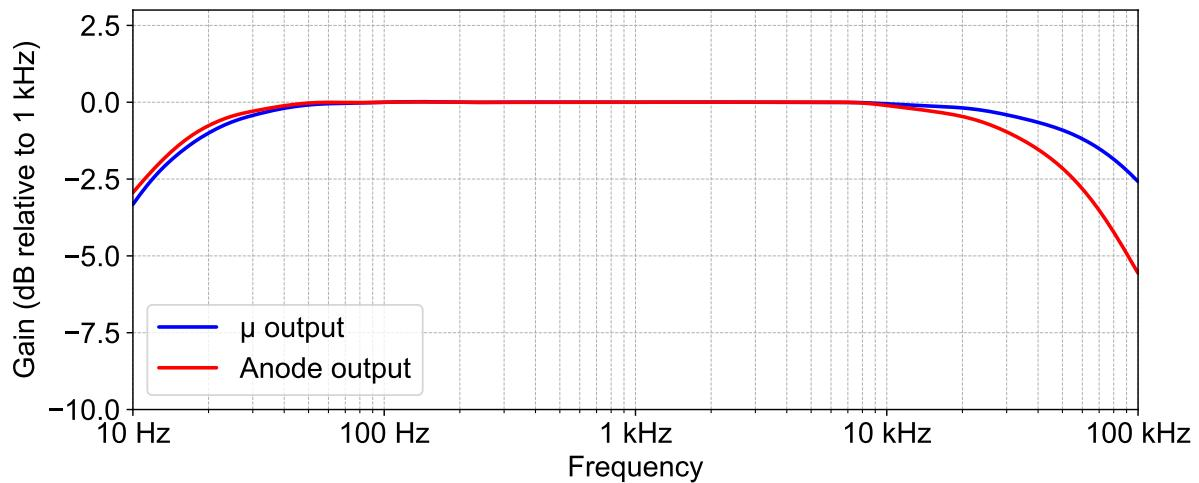

Figure 10: Frequency response, measured at $100 \text{ V}_{\text{RMS}}$ output with a 100 pF load connected to the output.
- Frequency response with 100 pF load (Fig. 10):